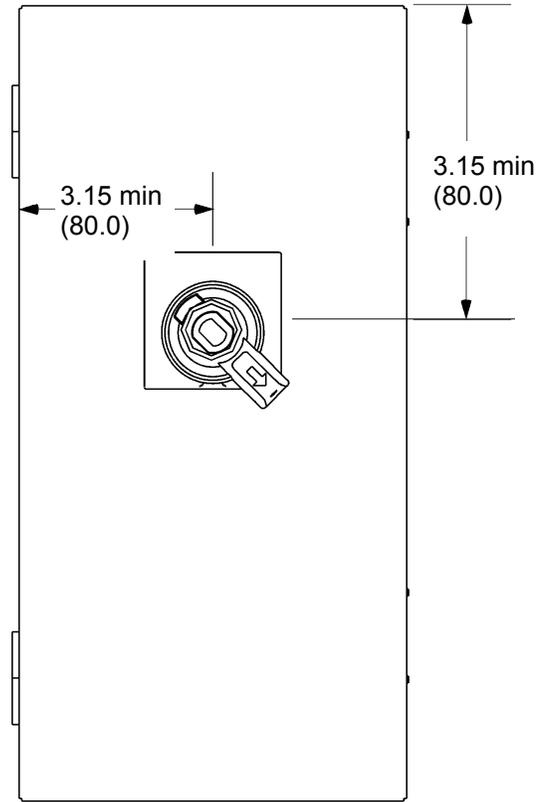
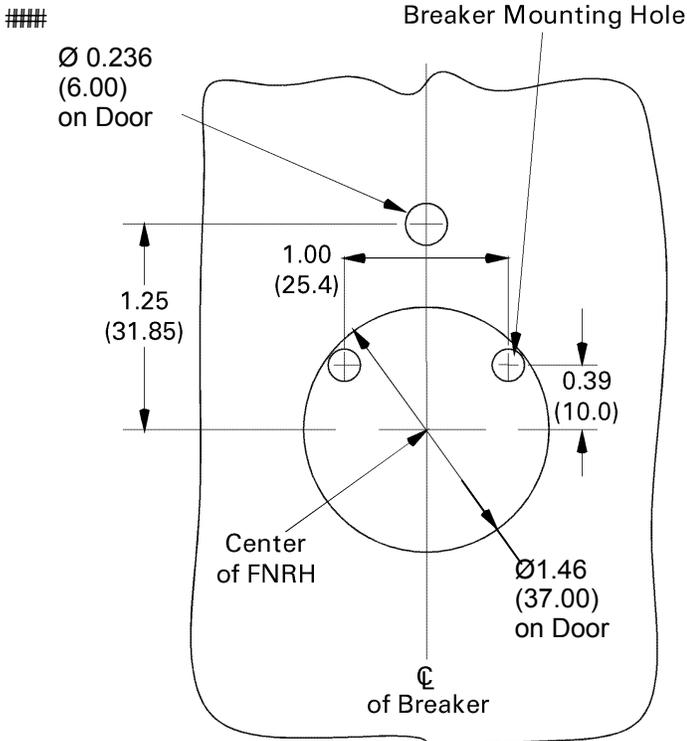

Figure 10. FNRH handle location on the enclosure door.
Figure 9. Hole pattern for mounting the handle assembly on the enclosure door.
1. Drill holes on the enclosure door to accommodate mounting the handle assembly, as shown in Figure 9. The handle location on the door is illustrated in Figure 10. Be sure that the larger hole in Figure 9 is centered over the end of the crank assembly or the extension shaft, as appropriate.